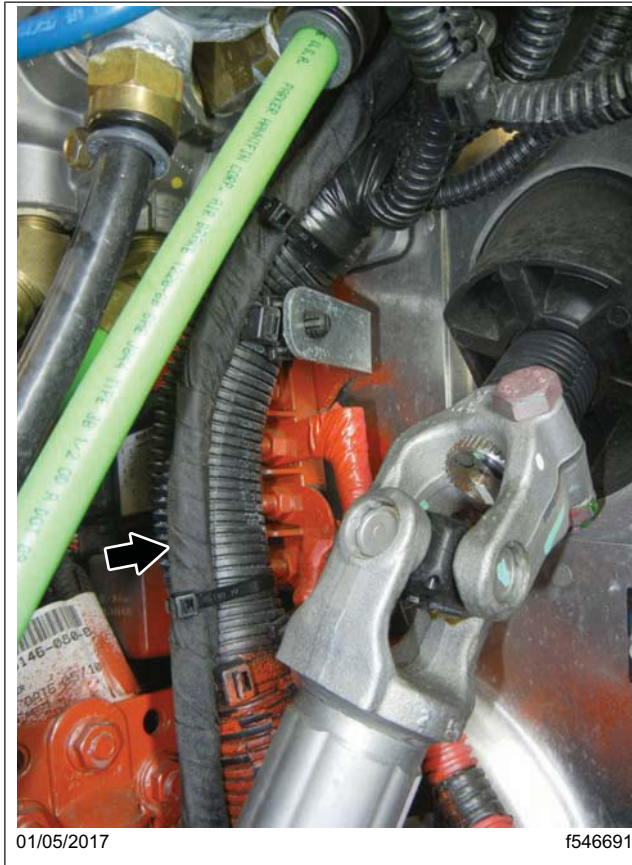

Fig. 31, Bulkhead Harness Routing
38. Route harness A06-93018-084 along the frame rail to bulkhead connector 1A. See Fig. 31.